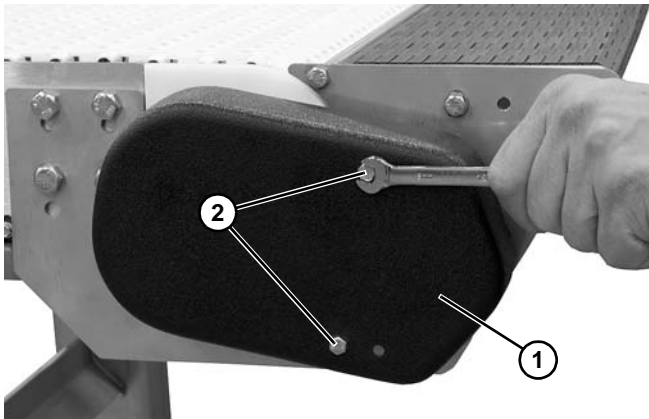

Figure 83
13. Install cover (**Figure 83, item 1**) with two hex head screws (**Figure 83, item 2**).